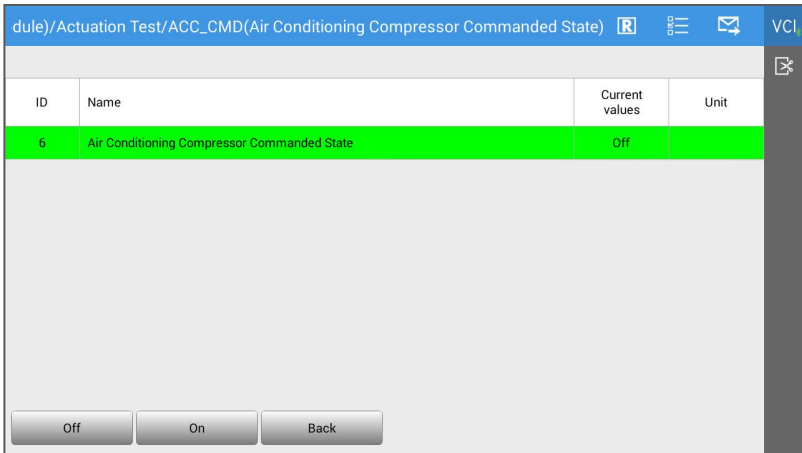

Figure 3.5.4-1 Actuation Test
- 4) Drive the air conditioner compressor operation through [Off] and [On] buttons. When an operation is successfully completed, the screen will display “Operation Successfully” or other similar prompt information, as shown in Figure 3.5.4-1.